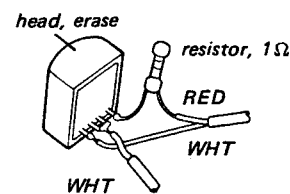

Fig. 9-18 Erasing current check setup
- (1) Thread a blank tape.
- (2) Deliver a 1 kHz signal of 0 dB (0.775 V) into the AUX IN jack and record the signal on the blank tape.
- (3) Rewind the tape and erase a part of the tape (record mode with no signal input).
- (4) Memorize the VTVM reading on the recorded part and the erased part of the tape.
- (5) Be sure that the ratio of the recorded part to the erased part is more than 70 dB in level. If not, perform the tape pass adjustment and be sure that the erasing current is 80 ~ 110 mA. To measure the erasing current, connect a 1 Ω resistor in series to the erase head as shown in Fig. 9-18 and the VTVM across the 1 Ω resistor.